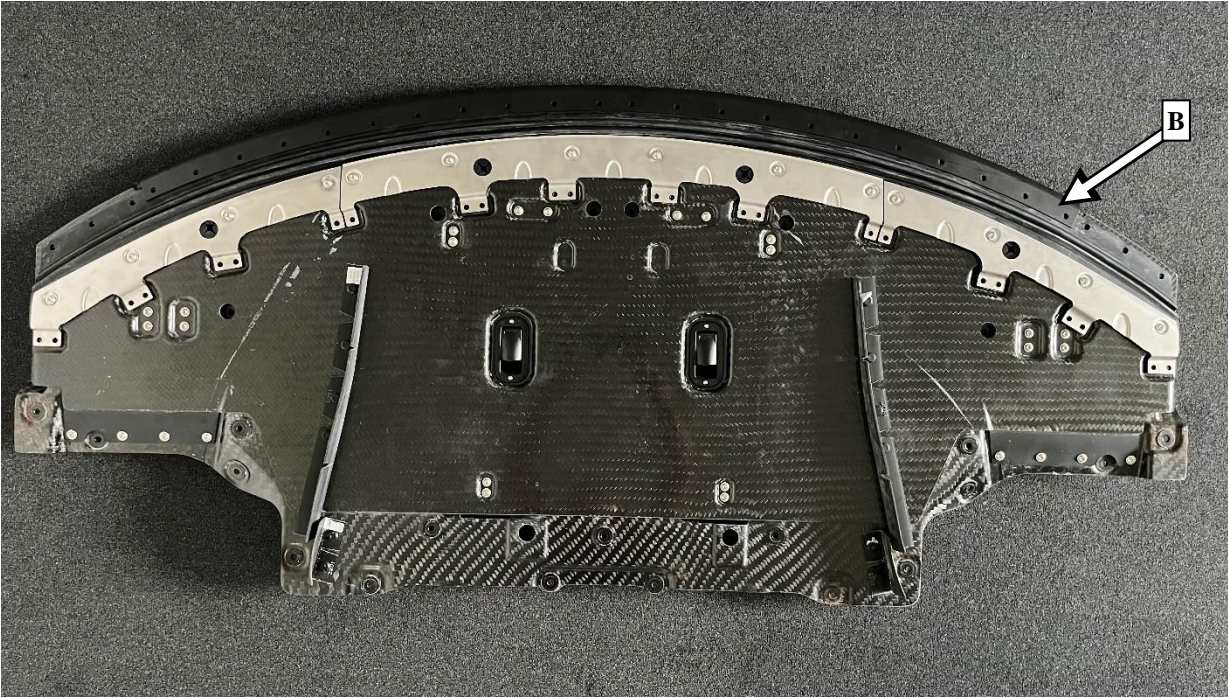

Figure 6
1. Remove clips and plastic protective strip in order to release the sealing lip (B, figure 6).